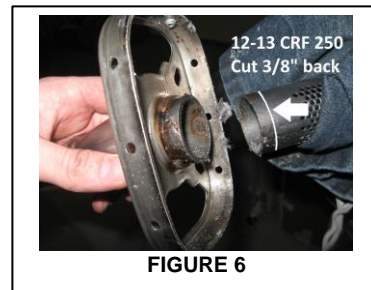

FIGURE 6
9. **If installing on a 2011 CRF 250 R, (if not, go to step #10):** Remove the inner core and use a hacksaw or band saw to cut the inner core flush with the inside edge of the support. **FIGURE 6**, then skip to step#11
10. **If installing on a 12-13 CRF 250 R:** Remove the inner core and use a hacksaw or band saw to cut off the inner core 3/8" back (towards motor) from inside edge of the support. **FIGURE 6**